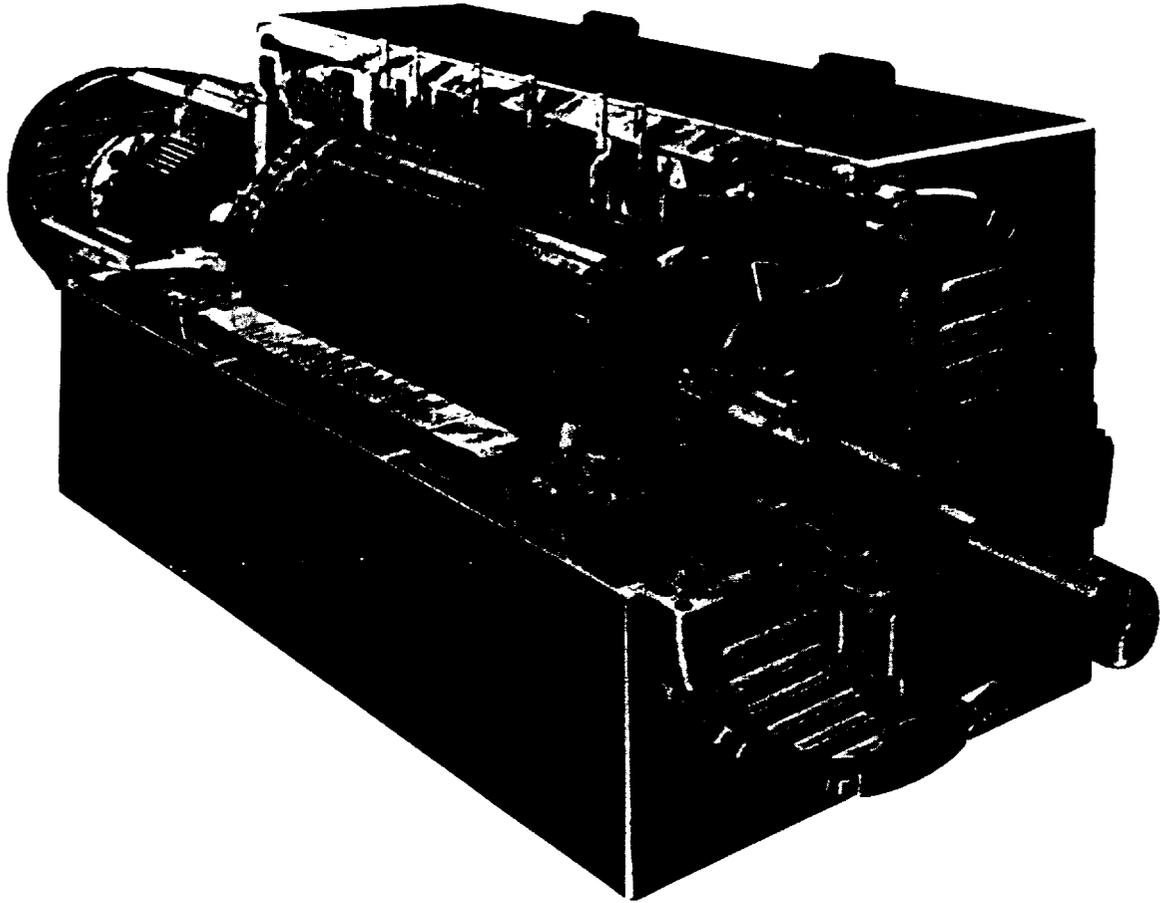

Figure 4-3. Cutaway view of synchronous motor.
c. Synchronous unit. This type of AC motor (fig 4-3) has an insulated winding in both the rotor and the stator. A variable source of DC excitation is supplied to the rotor winding and an AC line source is supplied to the stator winding. A synchronous motor is a constant speed machine with similar